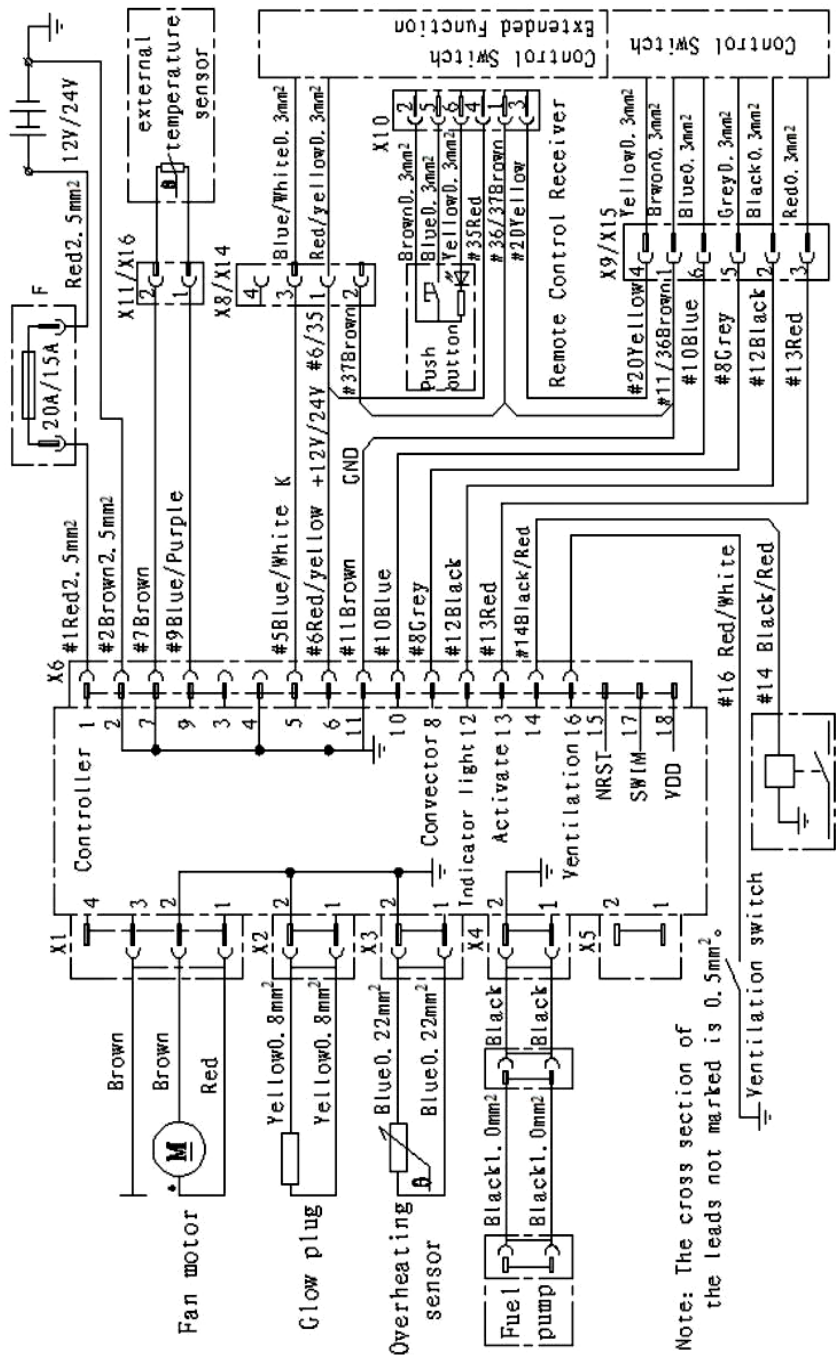

Fig.20
4.5.1 The wiring diagram for the heater is shown in Fig. 20. The wires of the main heater for connection to outside circuits have been made into wire bundles. They can be laid according to the positions of various components and shall be fixed in some proper locations. The distance between two fixing points shall not exceed 30cm. Attention: Any exposed wire bundle out of the vehicle body or out of the wiring groove must be protected by corrugated pipe.